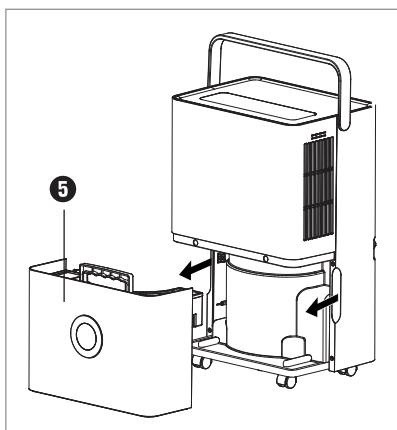

Fig. 1
- ◆ Pull the water tank  carefully out of the appliance using the recessed grips  on the side (see Figure 1). Use the handle to transport the water tank .